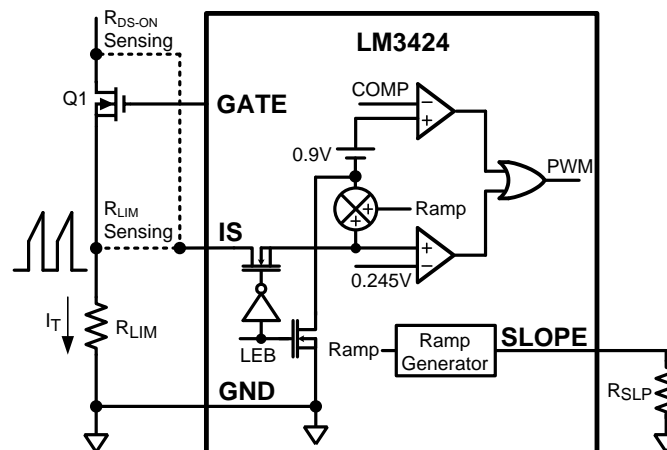

Figure 22. Current Sense / Current Limit Circuitry
The LM3424 achieves peak current mode control using a comparator that monitors the main MOSFET (Q1) transistor current, comparing it with the COMP pin voltage as shown in Figure 22. Further, it incorporates a cycle-by-cycle over-current protection function. Current limit is accomplished by a redundant internal current sense comparator. If the voltage at the current sense comparator input (IS) exceeds 245 mV (typical), the on cycle is immediately terminated. The IS input pin has an internal N-channel MOSFET which pulls it down at the conclusion of every cycle. The discharge device remains on an additional 240 ns (typical) after the beginning of a new cycle to blank the leading edge spike on the current sense signal. The leading edge blanking (LEB) determines the minimum achievable on-time (t_{ON-MIN}).
Looking at Figure 22, the positive PWM comparator input is the IS voltage, a mirror of I_L during t_{ON} , plus a typical 900 mV offset. The negative input of the PWM comparator is the COMP pin which is proportional to I_C , the threshold at which the main MOSFET (Q1) is turned off.
The LM3424 mitigates current mode instability by implementing an artificial ramp (commonly called slope compensation) which is summed with the sensed MOSFET current at the IS pin as shown in Figure 22. This combined signal is compared to the COMP pin to generate the PWM signal. An increase in the ramp that is added to the sense voltage will increase the maximum achievable duty cycle. It should be noted that as the artificial ramp is increased more and more, the control method approaches standard voltage mode control and the benefits of current mode control are reduced.